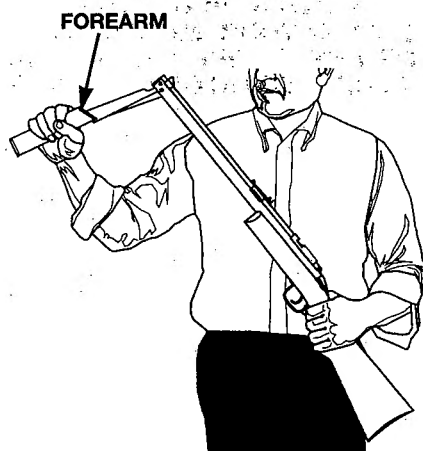

FIG. 3
- B. Open the forearm all the way until it stops. (Fig. 3) Close it with a smooth stroke using the heel of your hand. Don't pinch hand or fingers when the forearm closes. Keep your finger off the trigger while pumping.